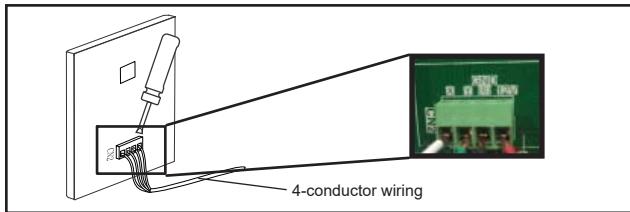

Figure 3. Connection at Controller
3. At the controller, wire the field-provided 4-conductor shielded cable to X / Y / GND (E) / 12V terminal of the controller. See Figure 3.